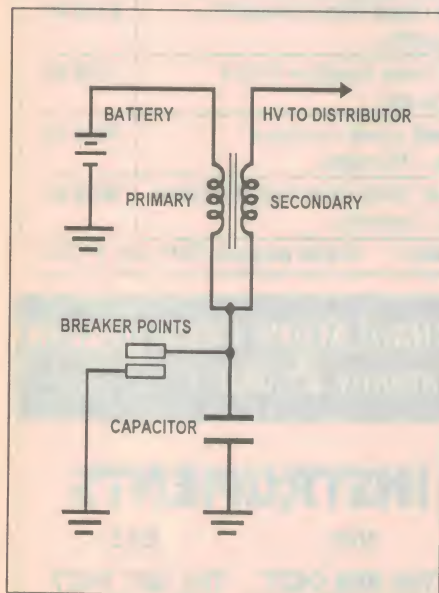

Fig.1: The conventional Kettering ignition system.
By the way, to refresh your memory about the standard Kettering type ignition system, the schematic is shown in Fig.1. There are only three components: the ignition coil itself, the contact points and the capacitor. The distributor rotor is simply a rotary switch which connects the high voltage (HV) output from the coil to each of the spark plugs in turn.